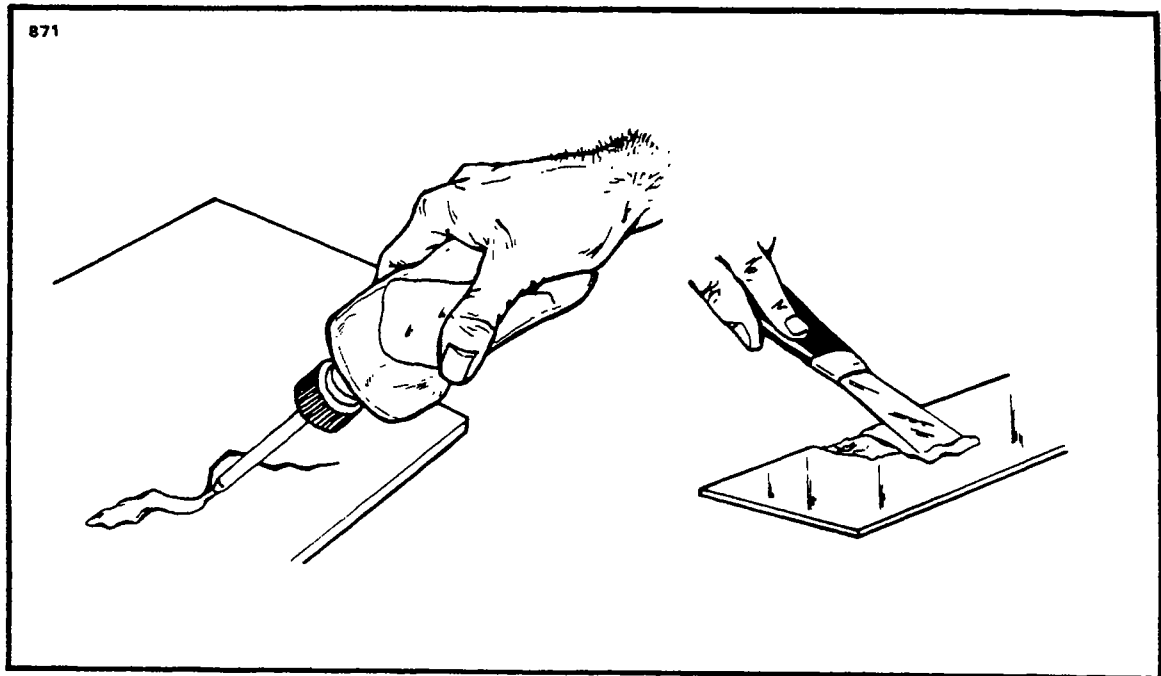

Figure 4-12. Deep Scratches, Shallow Nicks and Small Holes
c. Deep Scratches, Shallow Nicks and Small Holes: (Less than 1 inch in diameter.) (Refer to Figure 4-12.)